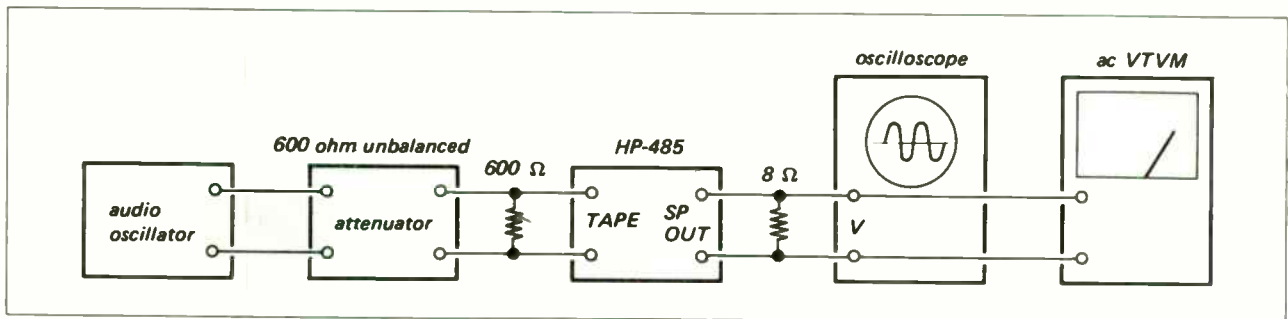

Fig. 3-22 Ac-balance adjustment test setup
1. With the equipment connected as shown in Fig. 3-22, set the POWER switch to the ON position and feed a 1-kHz, 0.775-V (0 dB) signal to the TAPE input jack through the attenuator.